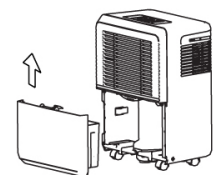

Fig. 9
- Discard the water and replace the bucket in to the unit. (Fig. 9). The bucket must be securely seated for the dehumidifier to operate. If the bucket is not properly installed a P2 or Eb error code will display on the control panel.